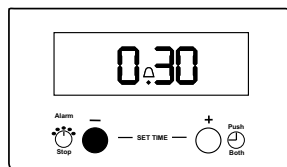

Fig. 9.
Press and hold button (1) and the display will countdown in one minute intervals. See Fig. 9.